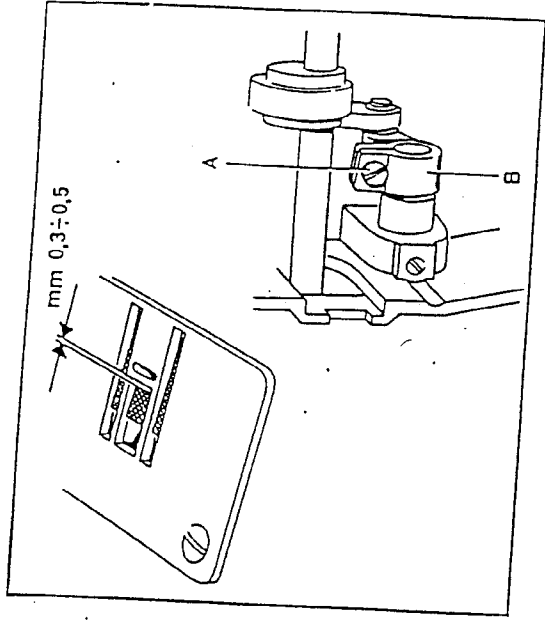

Fig. 2
- turn balance wheel and check that, when feed dog is at the beginning of its onward stroke, the distance existing between it and the end of the slot is comprised between 0.3 and 0.5 mm. (fig. 2).